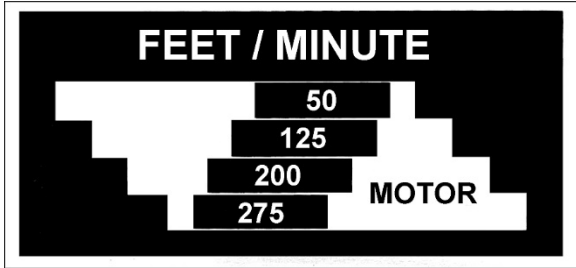

Figure 7-5: belt positioning
3. Slip belt into proper pulley grooves, according to chart inside pulley cover (also shown in Figure 7-5).
4. Lift handle (P) to apply tension on belt, and tighten knob (N).